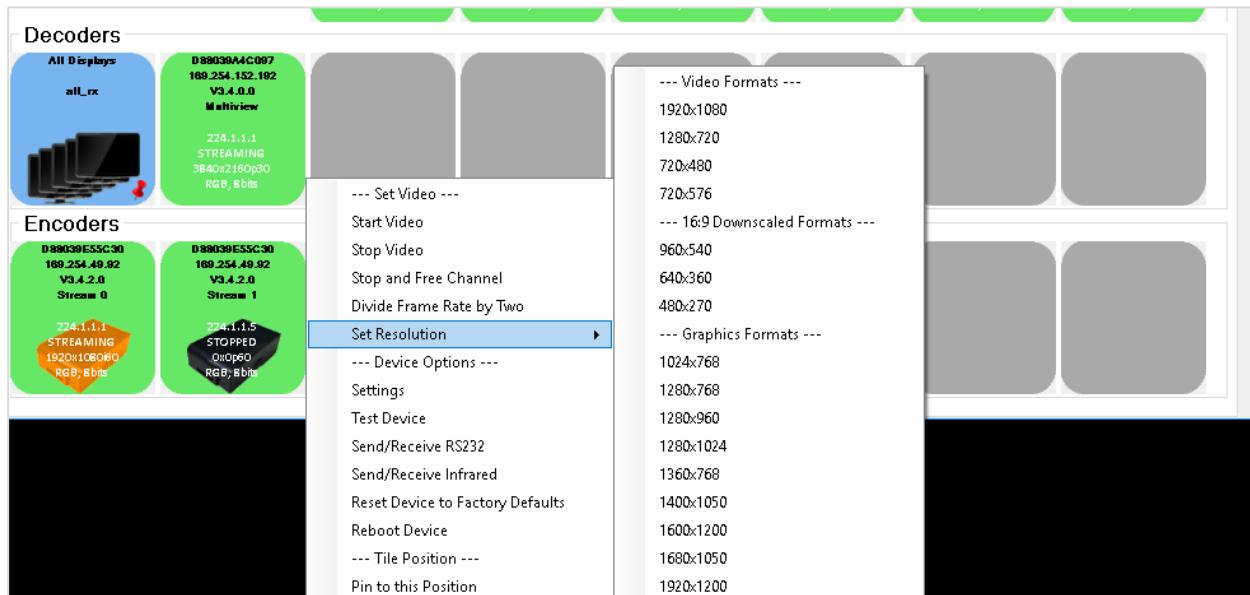

Figure 18: Changing Multiview Resolution
- If streams do not automatically start, right click over the appropriate BlueRiver encoder (RX) and select Start Video.
- Refer to Figure 18: Changing Multiview Resolution for an example.
- i. If Divide Frame Rate by Two is applied to the native stream (stream 0) it will no longer be able to be used by a Decoder (RX) operating in Genlock, Genlock Scaling or Wall Routing modes.